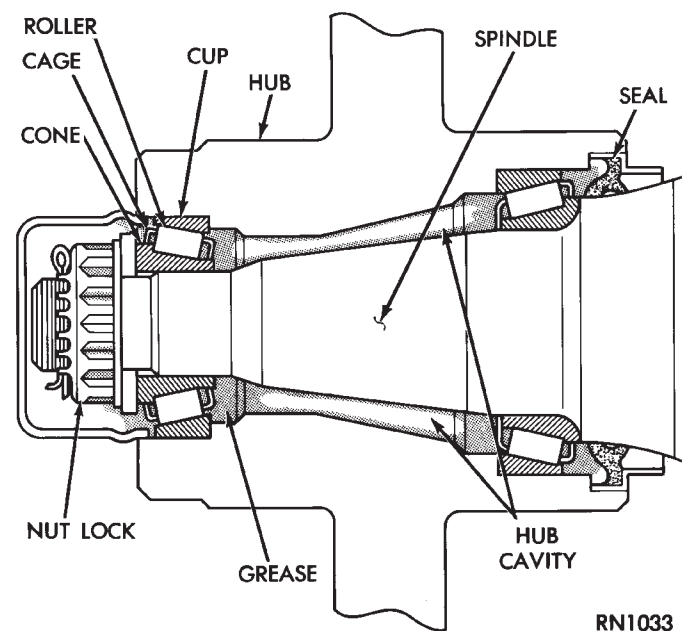

Fig. 7 Rear Wheel Bearings
- (1) Hoist rear wheels off the ground and support vehicle on safety stands. Refer to Hoisting Recommendations in the General Information section of this group.
- (2) Remove rear wheels.
- (3) Remove brake caliper on vehicles with rear disc brakes. For proper procedure, see Group 5, Brakes.
- (4) Remove rear wheel hub (drum) assembly and remove inner grease seal (Fig. 7). For proper service procedure, see Group 5, Brakes.
- (5) Inspect bearings, refer to Inspection paragraph of this procedure. Wash used lubricant from bearings with solvent and blot or blow dry.
- (6) Using a bearing packing device, lubricate the bearings with Mopar®, Wheel Bearing Grease or equivalent.
- (7) With a wiping cloth, clean used lubricant from wheel hub assembly and axle spindle.
- (8) Install inner wheel bearing in the hub assembly, small end of bearing toward hub. With a finger, smooth out grease around the outside of bearing.
- (9) Using a seal driver, install new inner hub seal.
- (10) Install wheel hub (drum) assembly on axle spindle.
(11) Install outer wheel bearing over the spindle end, small end of bearing toward hub. With a finger, smooth out grease around the outside of bearing.
(12) Install washer and spindle nut. While rotating hub, tighten spindle nut to 27 to 34 N•m (240 to 300 in. lbs.) torque. Loosen spindle nut one quarter turn. Hand tighten spindle nut.
(13) Install spindle nut lock cover, cotter pin and grease cap.
(14) Install disc brake caliper on vehicles with disc brakes.